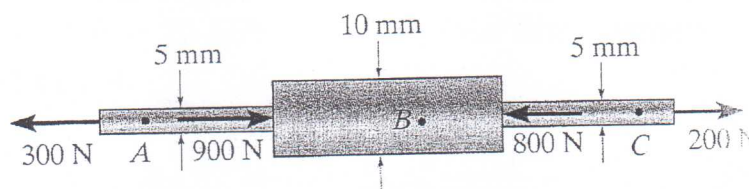

Figure 1.
- (1) A metal wire is 2.5 mm diameter and 2 m long. A force of 120 N is applied to it and it stretches 0.3 mm. Assume the material is elastic. Determine the following:
- (2) A steel tensile test specimen has a cross sectional area of 100 mm^2 and a gauge length of 50 mm, the gradient of the elastic section is $410 \times 10^3 \text{ N/mm}$. Determine the modulus of elasticity.
- (3) A steel column is 3 m long and 0.4 m diameter. It carries a load of 50 MN. Given that the modulus of elasticity is 200 GPa, calculate the compressive stress and strain and determine how much the column is compressed.
- (4) Determine the average normal stress developed at points *A*, *B*, and *C*. The diameter of each segment is indicated in Figure 1.